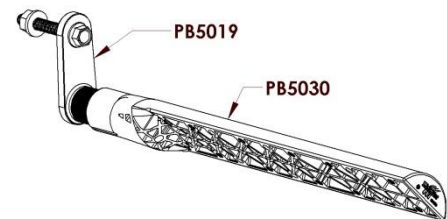

Figure 3
- B. Insert the paddle bracket (PB5030) onto a swivel bracket (PB5019) as shown in Figure 3.